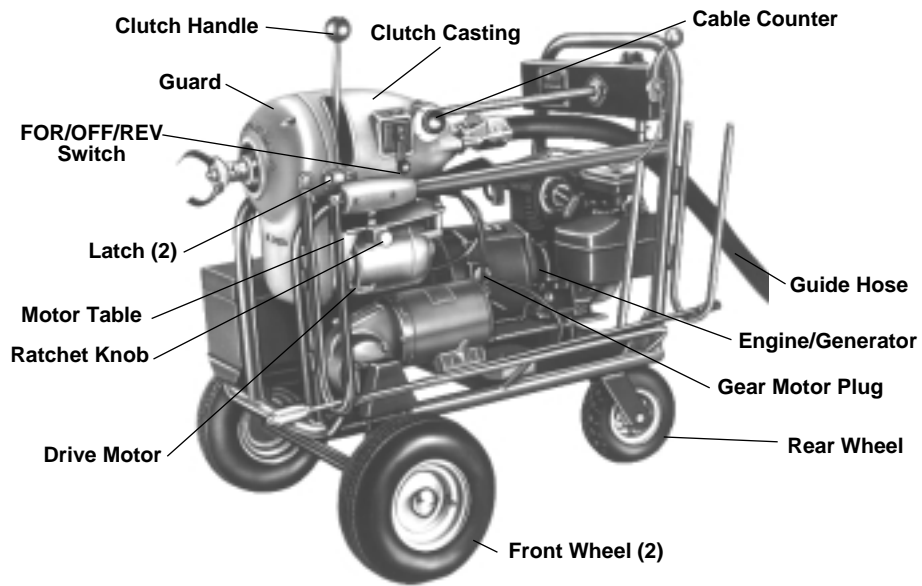
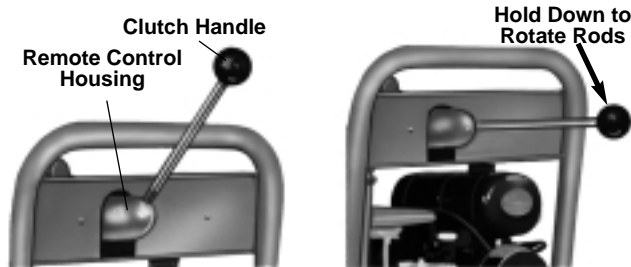

Figure 3 – K-2000 Machine with Cable Guide Hose and Clutch Handle in Clutch Casting
Figure 9 – Clutch Handle in Remote Control Housing
2. Engage drive clutch and lock **rear wheel** (*Figure 9*) in straight position for stability. Unplug **gear motor** from **engine/generator** (*Figure 3*).
3. Release two latches (*Figure 3*) and remove **guard** on front of machine.
4. Pull **ratchet knob** (*Figure 3*) on **motor table** and raise table. Lock in highest position by giving **ratchet knob** one-half turn.
8. Screw **clutch handle** (Figure 3) into **clutch casting**.
9. Attach **cable guide hose** (Figure 3).
1. Place **FOR/OFF/REV SWITCH** (Figure 3) in **FOR** position.
2. Pull **ratchet knob** (*Figure 3*) on **motor table** and raise table. Lock in highest position by giving **ratchet knob** one-half turn.
6. Screw clutch handle into remote control housing (*Figure 9*).
16. Lock rear wheel with **locking pin** (*Figure 3*).
2. Hold clutch handle (*Figure 9*) down maintaining firm pressure to rotate rods.